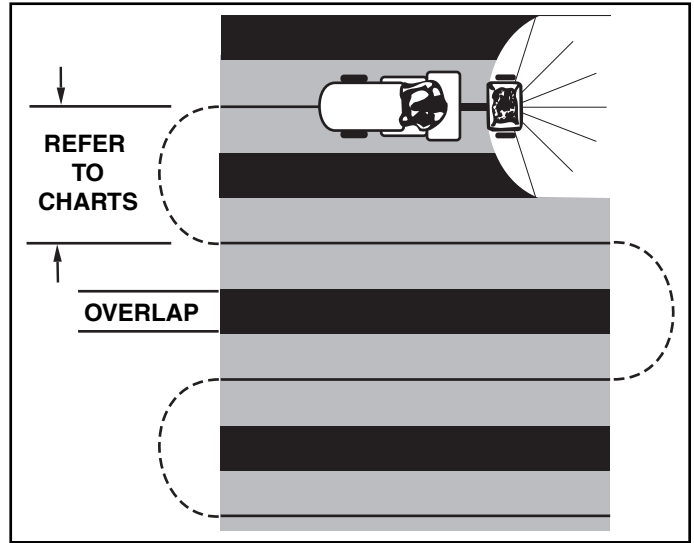

FIGURE 14
9. To insure uniform coverage, make each pass so that the broadcast pattern slightly overlaps the pattern from the previous pass as shown in figure 14. The approximate broadcast widths for different materials are shown in the application chart on this page.